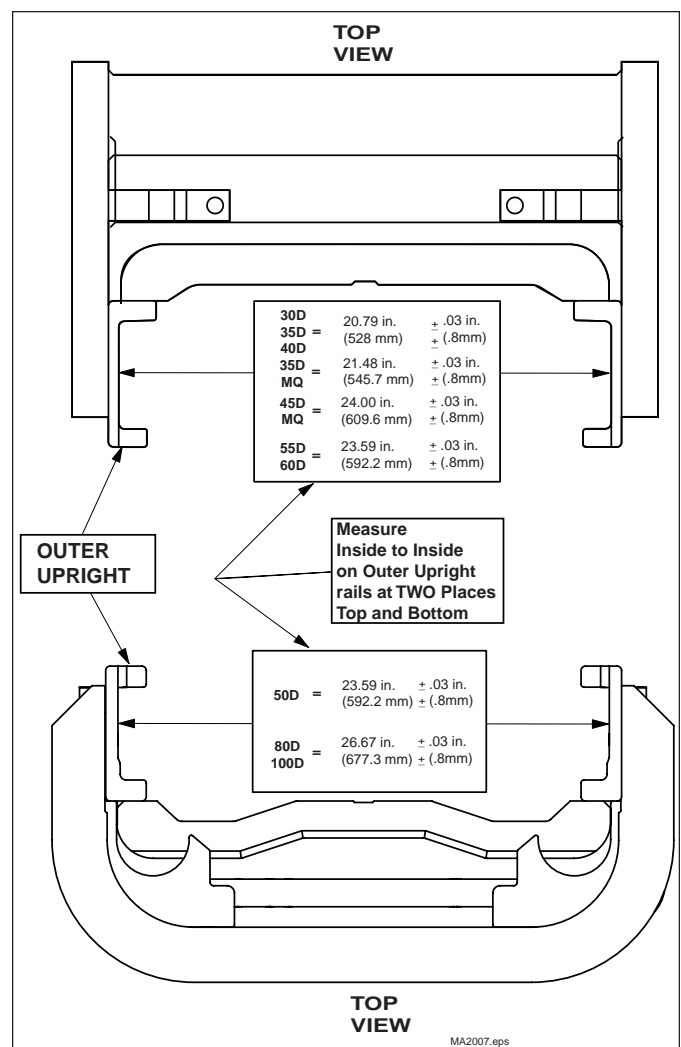

Figure 3. Dimensional Inspection.
9. The measurement shown in Figure 3 should be taken after welding and cooling the mast. This dimension must be maintained for the uprights to operate properly.